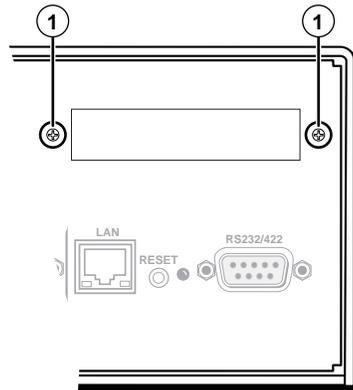

Figure 7-6 — Blank panel removal
2. On the rear panel (figure 7-6), remove and retain the two screws (①) that secure the blank panel to the ISS panel. Remove and discard the panel.